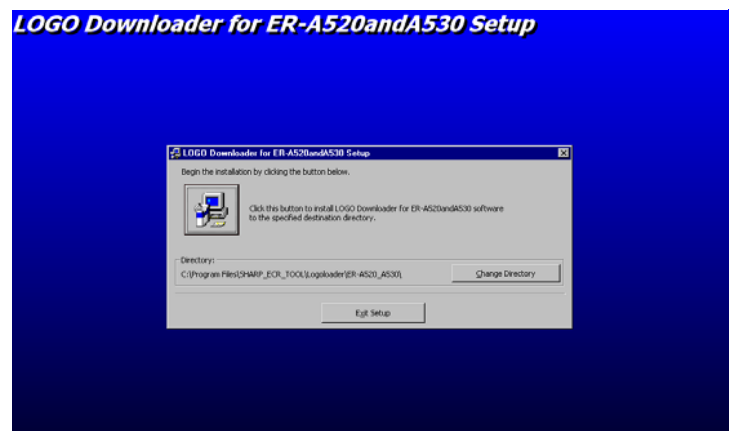

Figure 3
5. The installation process will begin when you click on the Installation Icon. (Fig. 3)